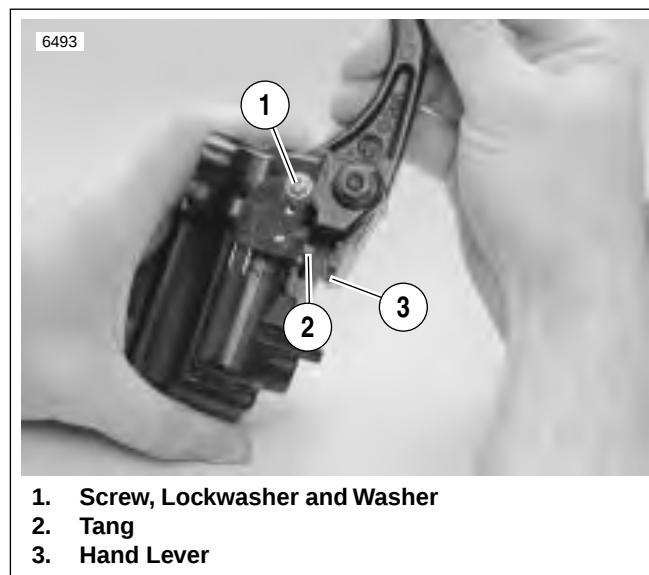

Figure 2-24. Testing Hand Lever
- a. Align hole in lever (3) with hole in master cylinder assembly.
- b. Lubricate pivot bolt (2) with LOCTITE ANTI-SEIZE.
- d. Install nut (1) (metric). Tighten to 44-62 **in-lbs** (5-7 Nm).
5. See Figure 2-24. Install front brake switch.
- a. Attach front brake switch with screw, washer and lockwasher (1). Tighten to 7-13 **in-lbs** (1-2 Nm).
- b. Test switch action. Tang (2) on switch must release when hand lever (3) is moved.